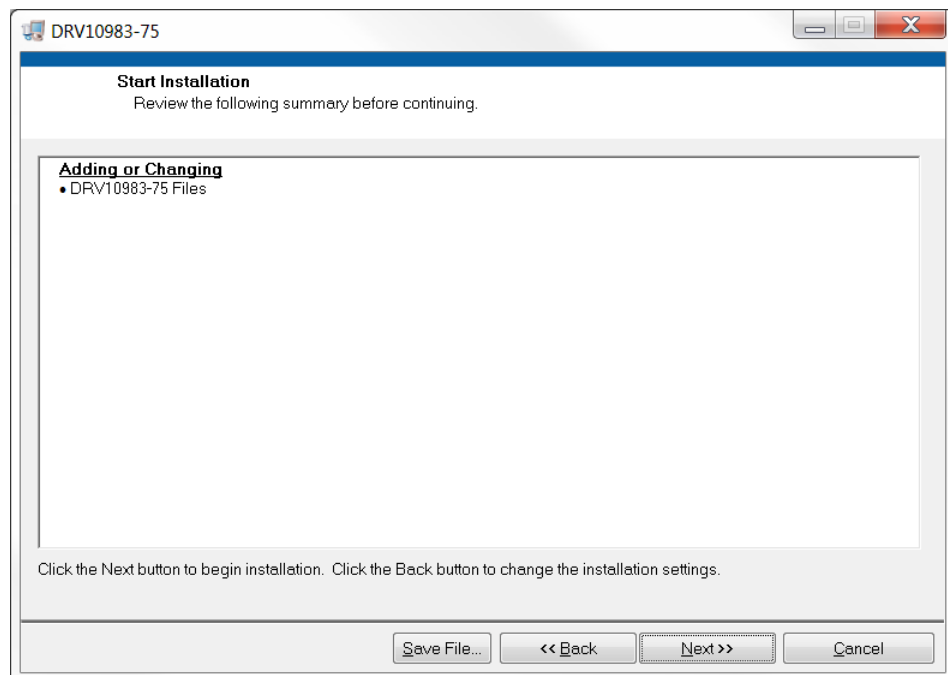

Figure 18. GUI Start Installation
5. The screen shown in Figure 18 appears. Click *Next >>* to begin installation.